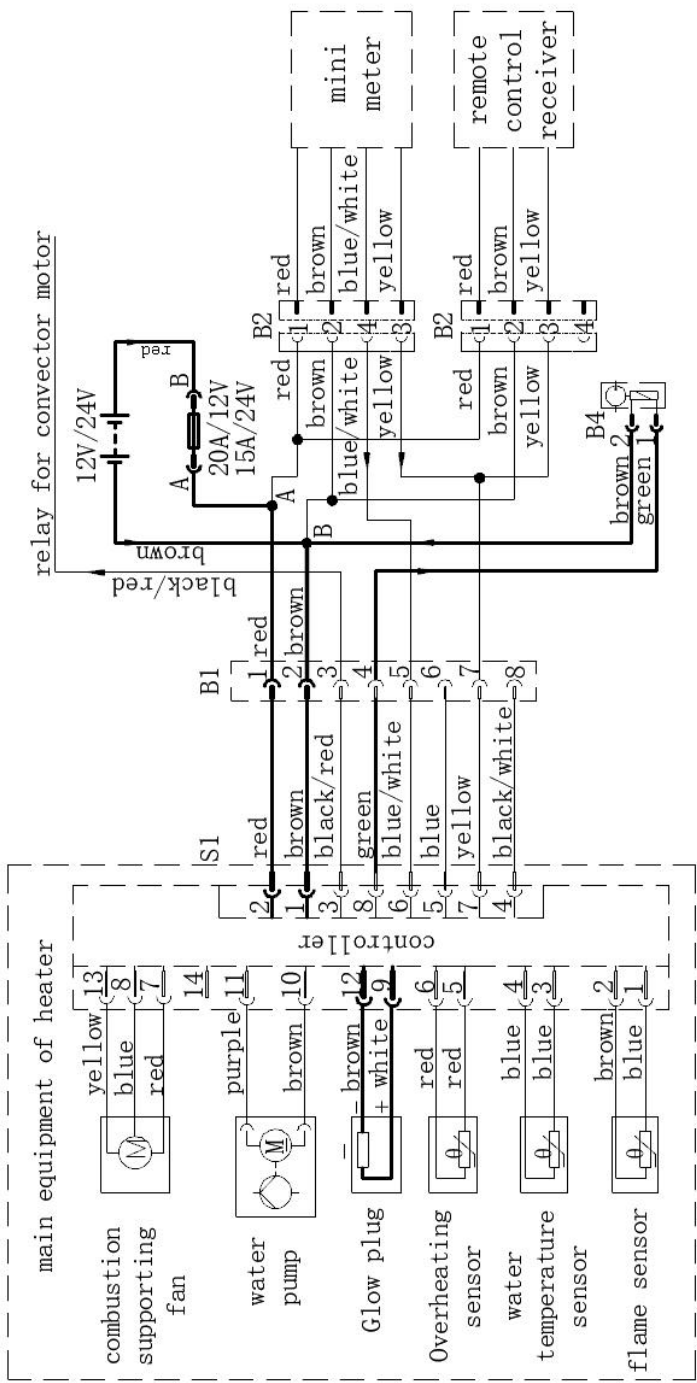

Fig.11
The wiring diagram for the heater in Fig. 11.
4.6.4 For those components whose connecting wires may need to go through small holes (such as switch and remote control receiver), you need to pass the wires through the holes before the connection is made to the connector. For such reason, the terminals of these components are not plugged in the sockets in the factory. You have to plug in the terminals according to Fig. 11. You have to keep correct relations for them. Connector for the remote control receiver: Plug connection shall be made according to wire color and serial number of terminals on the sockets.